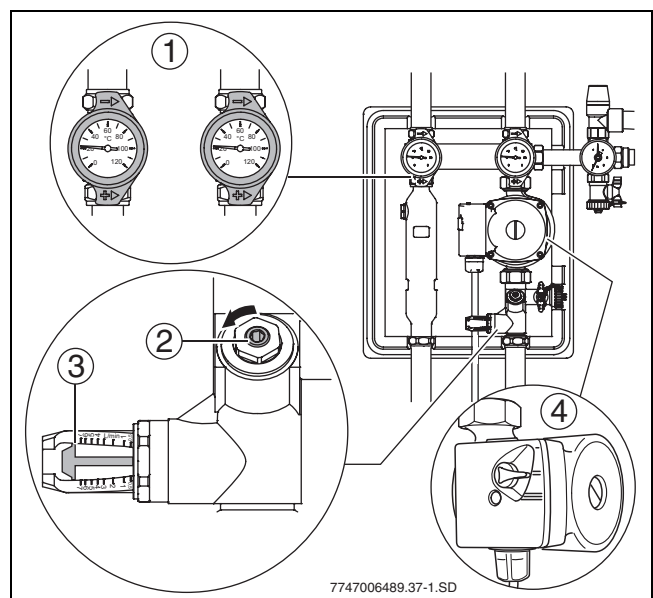

Fig. 20
- ▶ Check the flow rate in the inspection window of the flow limiter (→ Fig. 20, (3)).
- ▶ To pre-set the flow rate: adjust the solar pump's speed level switch (→ Fig. 20, (4)) so that the required flow rate is reached with as low a speed level as possible.